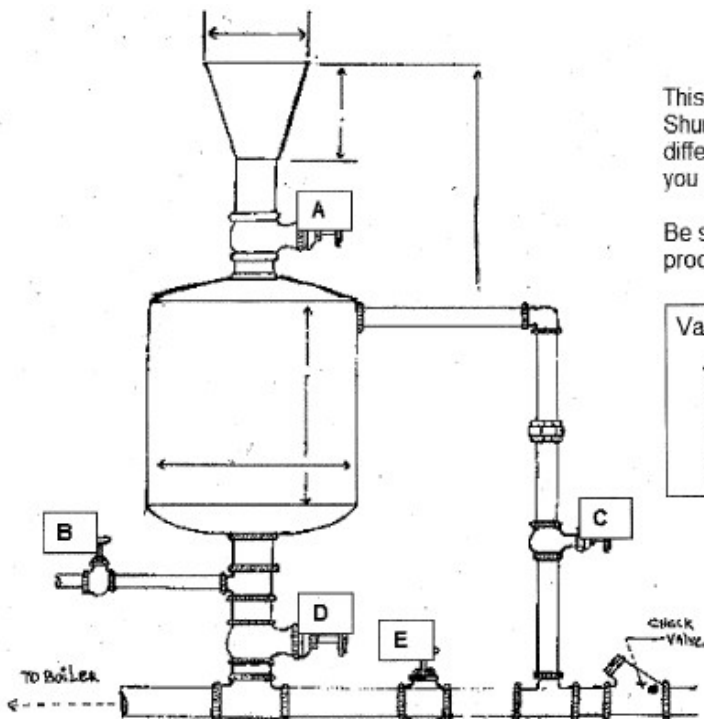

FIGURE 1
- Ensure all valves are in the positions (shown in Figure 1 above).
- Open the Drain Valve (B).
- Slowly open the Inlet Valve (A).